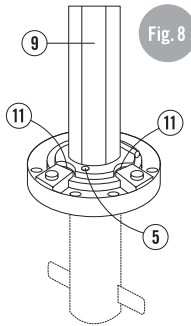
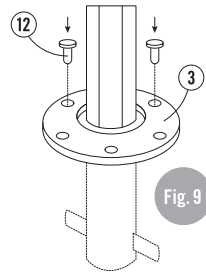

Fig. 8
Fig. 9
- Straighten up pole (9) carefully and still hold firmly (Fig. 8).
- Insert safety screw (5).
- Adjust upright position with plate screws (11), if necessary.
- Lower jacking ring (3) onto pole base and insert anchoring screws (12) (Fig. 9).